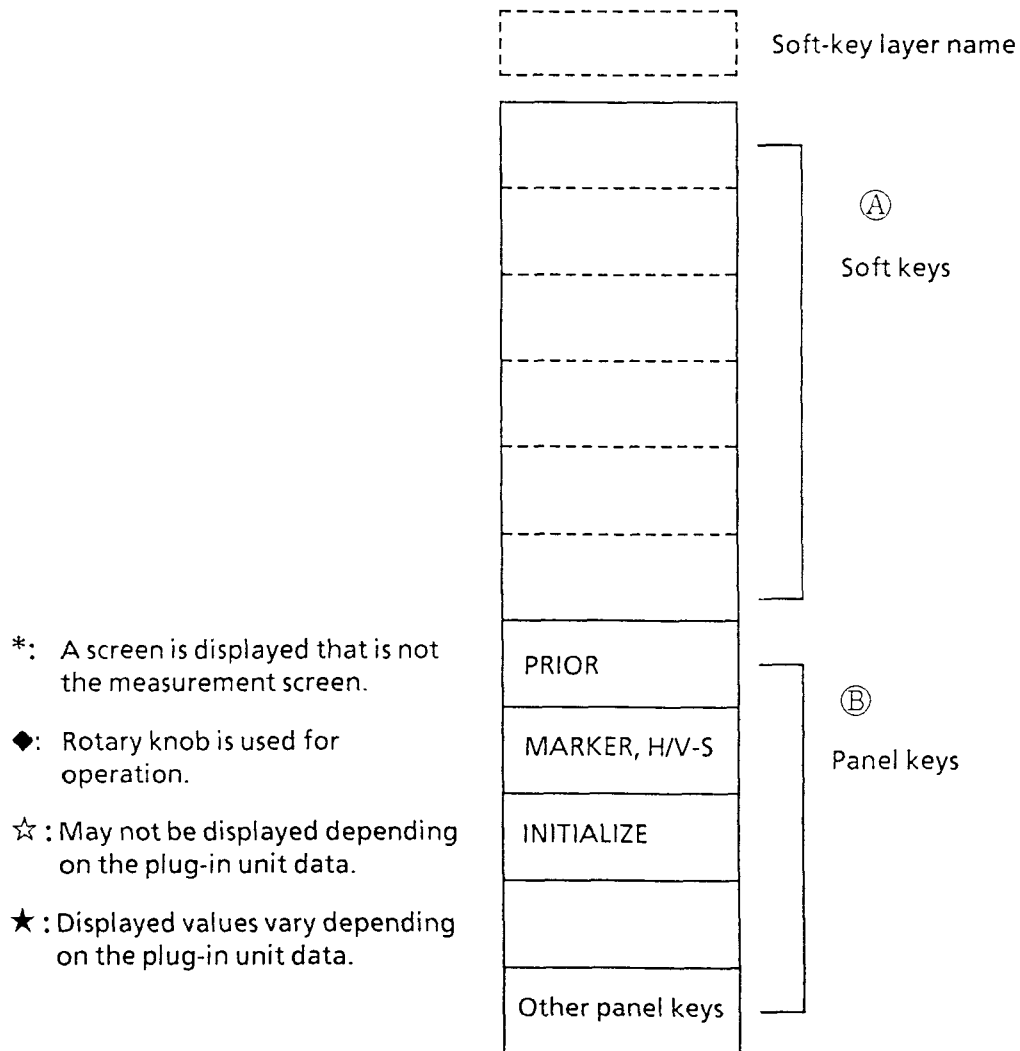

Fig. A-1 Format of Soft-Key Layer Transition Diagrams
The soft-key layer transition diagrams are described using the format shown in Fig. A-1. Layer transitions actuated by pressing such panel keys as [MARKER] and [H-SHIFT] other than soft keys are also indicated. The upper section marked by ① is for soft keys; the lower section marked ② is for other panel keys. Note that the following symbols are used in the layer transition diagrams, but these symbols are actually not displayed on the screen.